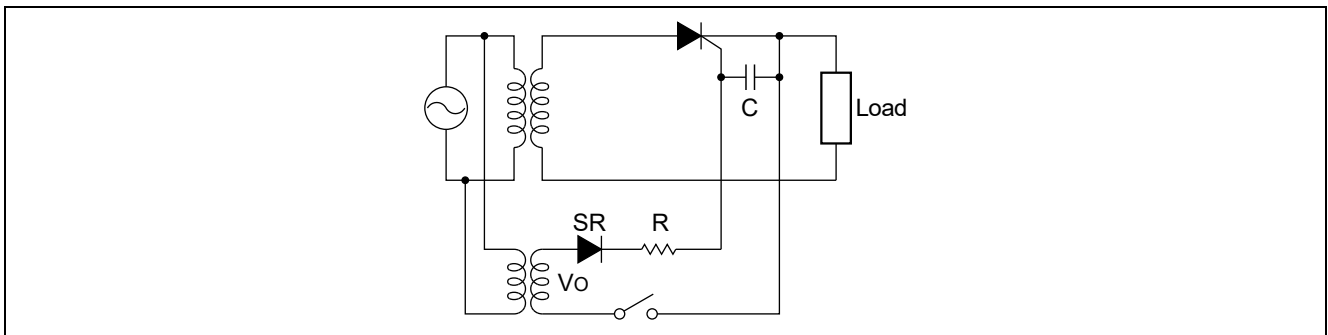

Figure 9 Example of Trigger circuit wiring diagram
It is explained that an example of designing a gate trigger circuit for thyristor CR25RM-12D synchronized with the main circuit voltage as shown in Figure 9. The silicon diode (SR) blocks negative cycles of the AC power supply for triggering. Unlike germanium diodes, the threshold voltage of silicon diodes is as high as 0.7 V, which helps prevent false triggering. The trigger supply voltage is rectified to half wave by the silicon diode (SR), so the gate duty period is 50%. Draw the allowable power dissipation curve for the 50% duty period on the gate load line graph in Figure 6. The average rating of gate power dissipation for CR25RM-12D is 0.5 W, so the allowable average gate power dissipation during 50% duty period will correspond to the 1 W according to the following formula.